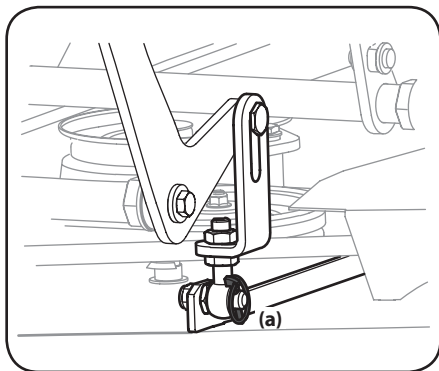

Figure 4-13
5. Remove the four lynch pins (a) that secure the deck to the deck lift assembly. See Figure 4-13.